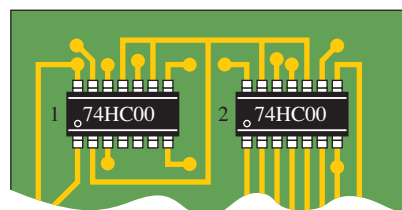

FIGURE 5-71
49. By examining the connections in Figure 5-71, determine the driving gate and load gate(s). Specify by device and pin numbers.